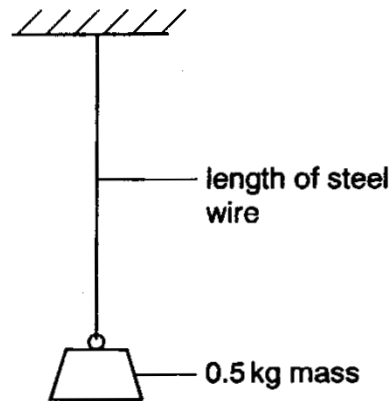

Fig. 9
Fig. 9 shows a 0.5 kg mass hanging freely on a length of steel wire.
- (a) On Fig. 9 use labelled arrows to indicate the direction and line of action of each of the two forces acting on the 0.5 kg mass.